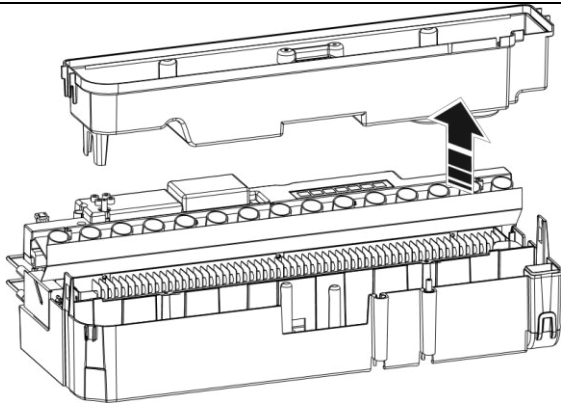

Fig 25
2. Gently slide the air filter upwards out of its plastic holder. (Fig 25)